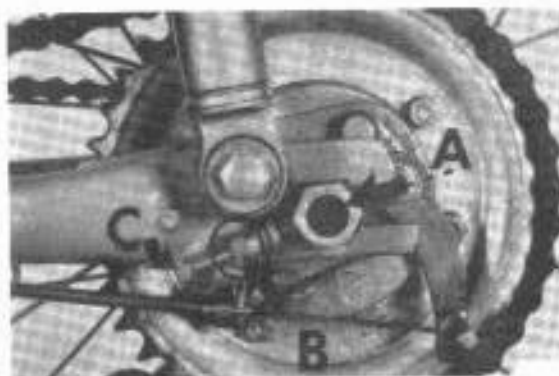

Fig. 26-1
- 3) Slacken the axle nuts "A" Fig. 26-1 and the lock nuts "B" Fig. 26-1 on the chain adjusters "C" Fig. 26-1 and push the rear wheel backwards by screwing in the chain adjusters equally on both sides until the correct tension is achieved as described on page 21. Tighten axle nuts "A" and adjuster lock nuts "B".